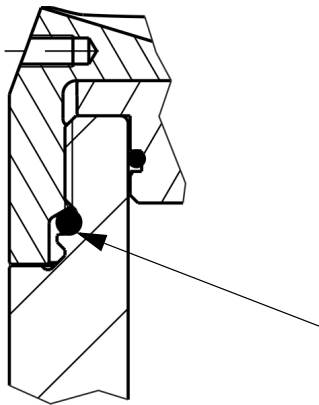

Fig. 22: Position of the O-ring
- Make sure that the O-ring of the housing is in the intended position (Fig. 22).